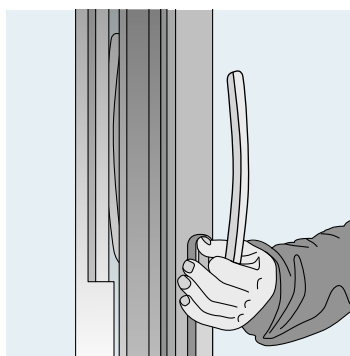

Figure 1
2. Grip the handle and move the door toward the closed position, while holding it back in the open position. This prevents marks on the mullion (figures 1 and 2).